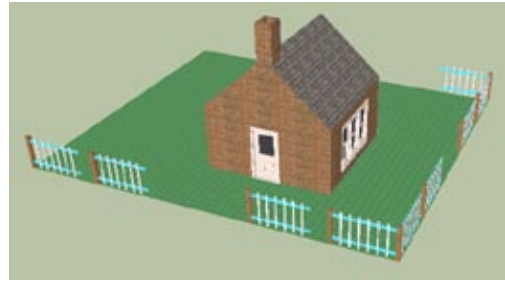

Figure 14-20
3. Replacing all of the original fences with the new one, as shown in Figure 14-20, can be done entirely in the In Model folder of the Components window. Right-click on the thumbnail for the original fence component and choose Select Instances. Then right-click on the thumbnail for the modified fence and choose Replace Selected.